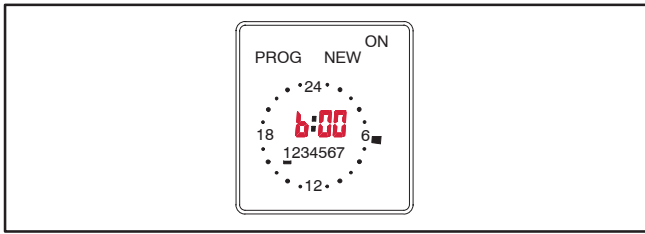

FIGURE 11. SETTING THE EXERCISE STARTING TIME
- 5.. Press the + or – buttons to set the starting time for the exercise (see Figure 11).